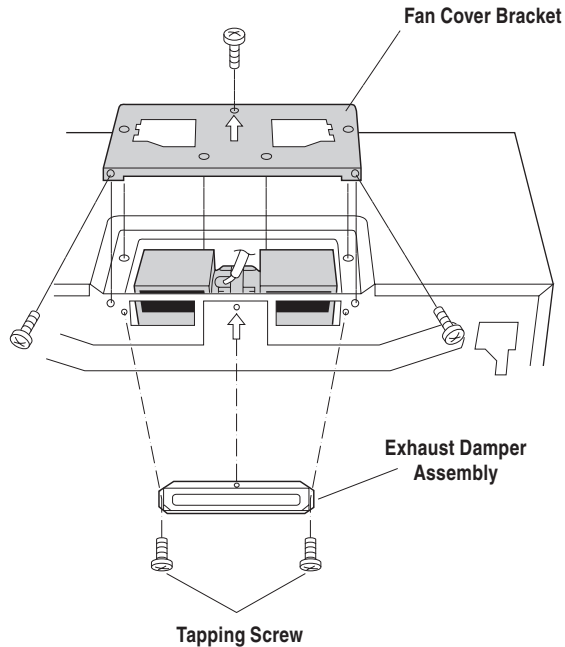

Figure 10
4. Put the lead wire into Wire Box. See Figure 10.
6. Attach the Exhaust Damper Assembly to the back of the unit. See Figure 10. Use two Tapping Screws 4 x 8 from the INSTALLATION HARDWARE and tighten into place.
5. Replace the Fan Cover Bracket by sliding it into the slits in the same direction as the arrow on the Fan Cover Bracket. Make sure the fan blades are visible through the top openings in the oven before proceeding. Attach the Fan Cover Bracket to unit with 3 screws, which were removed in Step 1 above. See Figure 10. The Hood Fan Unit is now rotated for vertical exhaust operation.